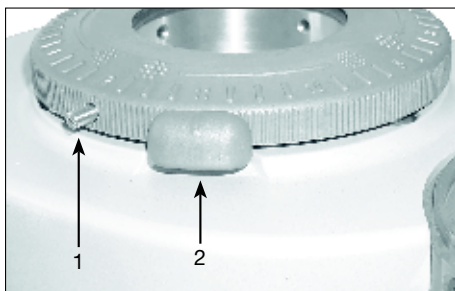
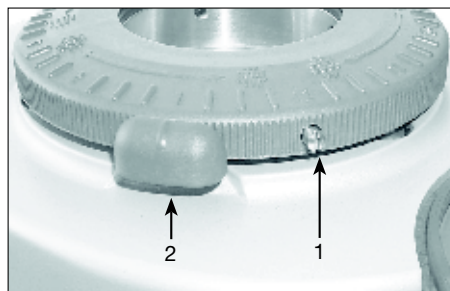

Fig. 1 - Proper installation.
Fig. 2 - Faulty installation
Finally, insert the adjusting ring nut, making sure that the hopper locking screw is slightly ahead of the grinder stop pin, in a counterclockwise direction, as shown in figure 1. Figure 2 shows a faulty installation of the adjusting ring nut: the hopper locking screw (1) is after the grinder stop pin (2).